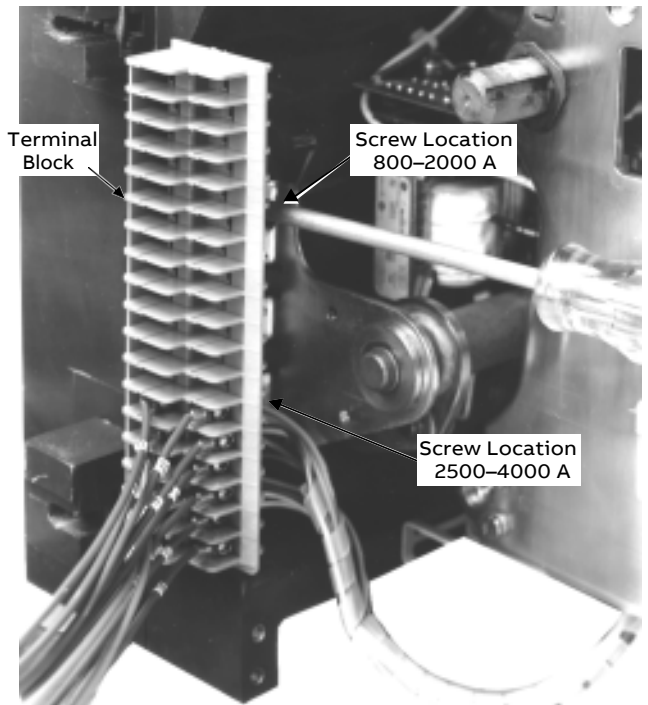

Figure 15. Removing the screw holding the secondary terminal block in place.
15. Remove the screw holding the secondary terminal block to the midcover, as illustrated in Figure 15, and lift the terminal block up and away from its mounting ridge.
14. Remove the screw holding the secondary terminal block to the midcover, as illustrated in Figure 15. Lift the terminal block off its mounting ridge.